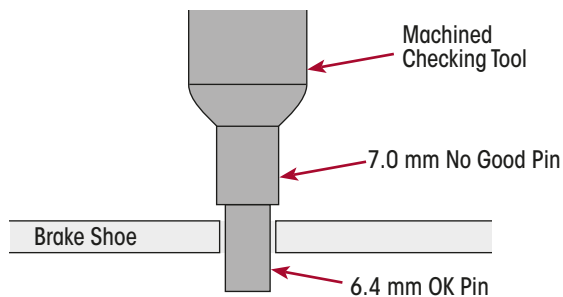

Figure 56: Shoe Rivet Hole Go-No-Go Gauge
5. Check shoe rivet holes for size and distortion. Use a go-no-go gauge that is 6.4 mm and stepped at 7.0 mm to determine hole size suitability. Refer Figure 56.